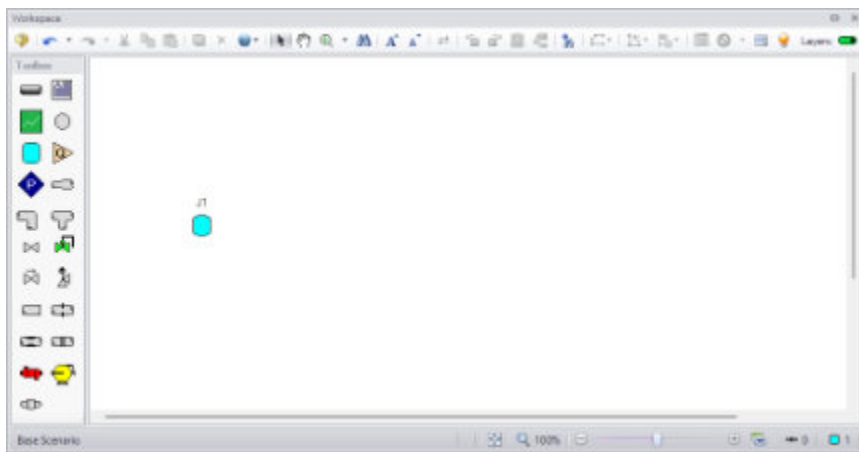

Figure 2.4a Tank junction placed
- **To start, click and drag a Tank junction from the Toolbox** and drop it on the Workspace. Figure 2.4a shows the Workspace with one Tank.